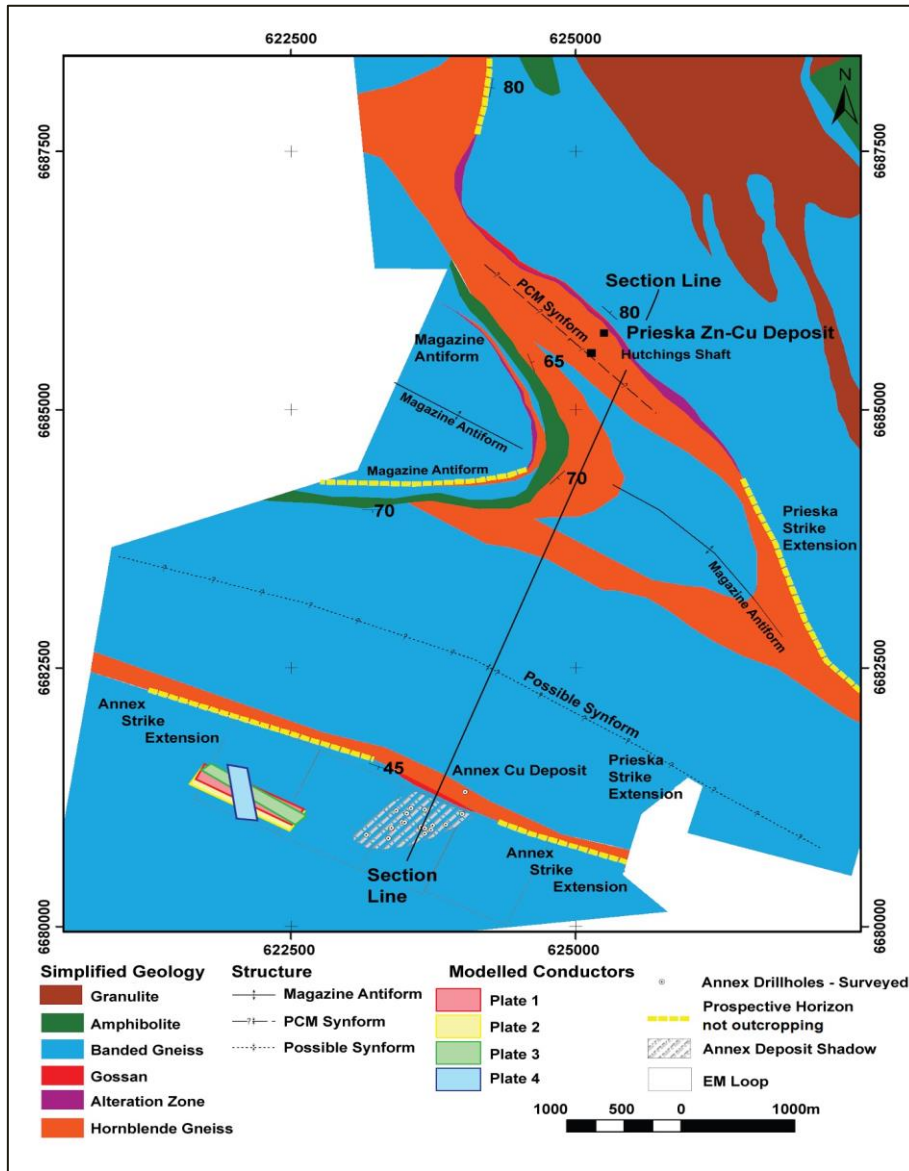

Figure 7: Geological plan showing Near-Mine prospective horizons and the location of an EM conductor to the west of the Annex Deposit.
Anglovaal diamond drilling at Annex in the 1970s and 1980s followed up on conductors detected by airborne Input Electromagnetic (EM) methods and succeeded in delineating semi-massive to massive sulphide mineralisation underneath a 35m-thick Dwyka tillite cap. Near-surface mineralisation was identified over a strike length of 1,000m and followed down to 550m below surface by 42 diamond drill holes. The deposit remains open at depth. Younger stratigraphic cover and general poor outcrop renders geological interpretation of Annex problematic, but the current understanding indicates repetition of the Prieska mineralised stratigraphy over a north-west – south-east trending set of folds (Figures 7 and 8).
Orion commenced ground EM surveying to explore for possible strike and depth extensions of Annex in August 2018. Modern EM surveys have the benefit of far stronger transmitters and more sensitive detection systems allowing for detection of deeper seated, blind mineralisation. Three loops of Fixed Loop Transient Electromagnetic (**FLTEM**) surveys have now been completed by Orion using sensitive Super Conducting Quantum Interference Devices (**SQUID**) detection systems. The loops cover both the known mineralisation at Annex for orientation purposes and continue along strike to the west and east. An EM conductor has been detected approximately 1,000m west of the known mineralisation with the top of conductor at 200m to 250m below surface (Figure 7). Additional surveying to better define the extent of this conductor and an additional loop testing along strike and to the east of known mineralisation are currently in progress. Diamond drilling will commence on the EM target once the modelling is finalised.
The Magazine Antiform (Figures 7 and 8), and its down plunge extension, which presents a large, blind target area and where Anglovaal geologists reported an alteration zone similar to the alteration at the Prieska Zn-Cu deposit, is scheduled to be the next priority target for ground EM.